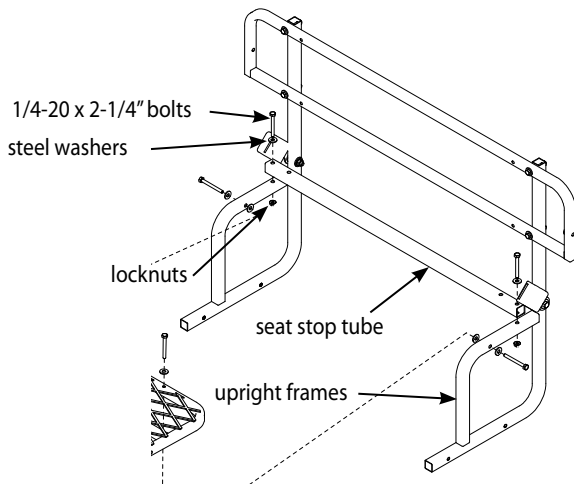

Figure 2A
4. Attach the seat stop tube (A684) to the top side of upright frames using (2) provided 1/4-20 x 2-1/4" hex head bolts, locknuts and 1/4" steel washers. **SEE FIGURE 2A.**